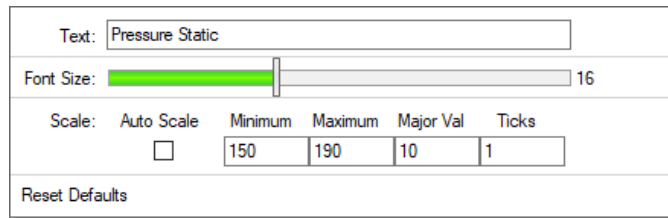

Figure 4.5 Axis Modification Window opened by right-clicking the y-axis
3. Set the Minimum to 150 bar, the Maximum to 190 bar, and the Major Val to 10 (see Figure 4.5)